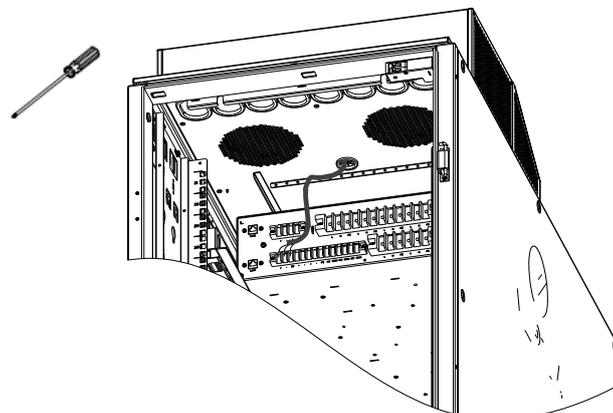

Figure 2-14 ECO module wires connection
3) Connect the fan cable to the “+”, “-”, and “SS” Pins in the “FAN” area of the PMU rear terminal block according to Figure 2-14 and bind the cable along the way.